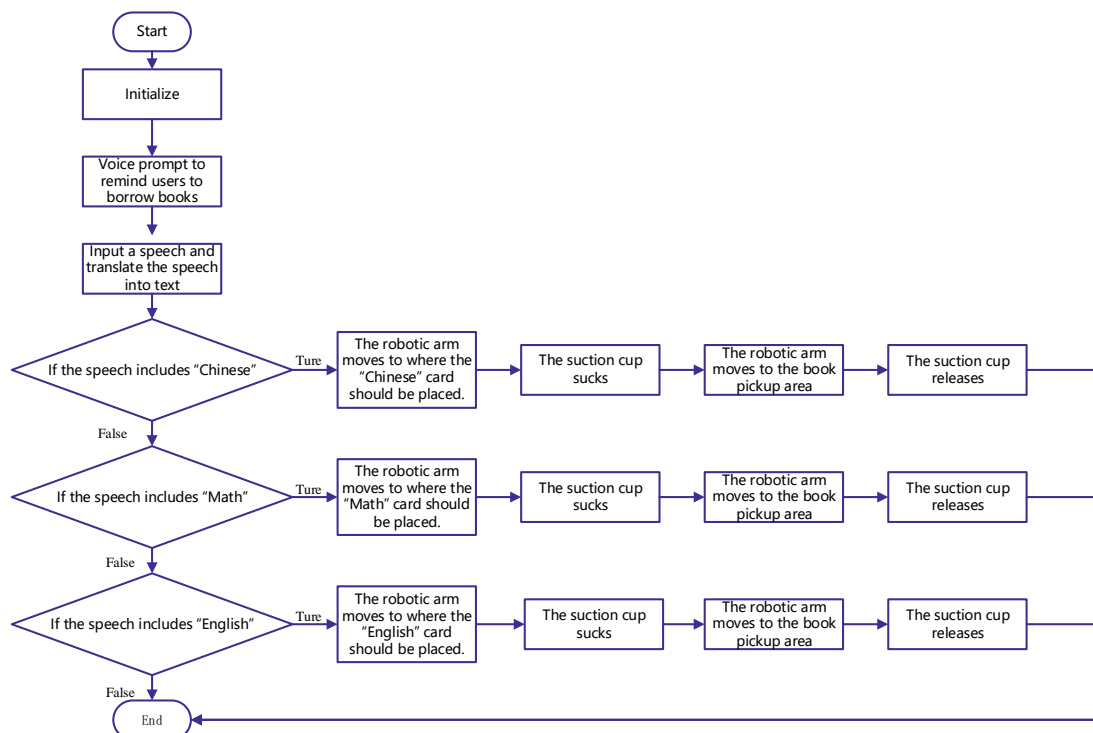

Figure 5.10 Flowchart of the voice-based book borrowing program
Step 3: Turn on the personal computer (PC).
(2) Design Program
Step 1: Design the program flowchart, as shown in Figure 5.10.